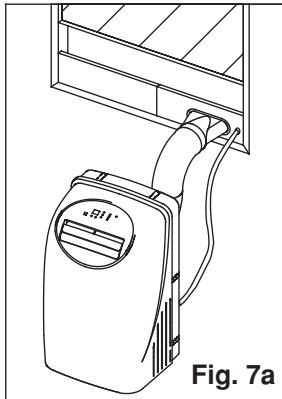

Fig. 7a
- Place the window adaptor at the other end of the exhaust hose. Affix this end into the window slider kit and seal. (Fig. 7a & b)